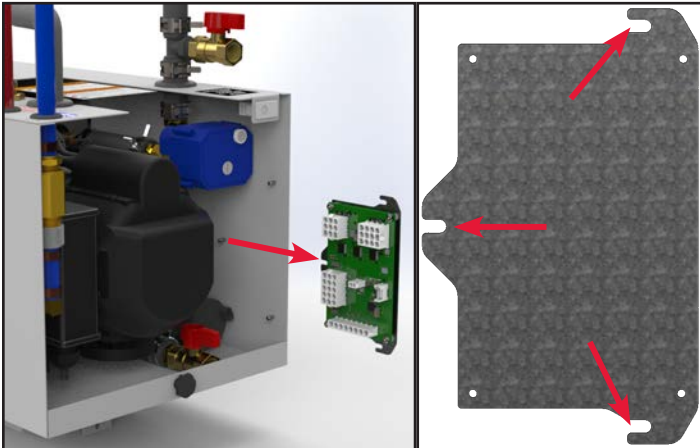

Figure 18
11. Insert the controller and mounting plate into the Aqua-Hot. As you insert the controller and mounting plate into the Aqua-Hot, the mounting plate should slide along the wall to ensure the key-ways catch the mounting studs (Figure 18).